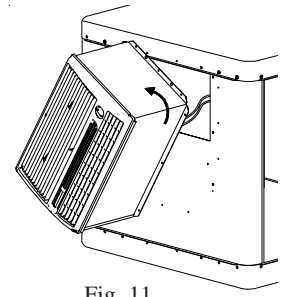

Fig. 11
3. Rotate the tunnel 90 degrees counter-clockwise (Fig 11). Be careful as you rotate the tunnel that you don't damage or discon-